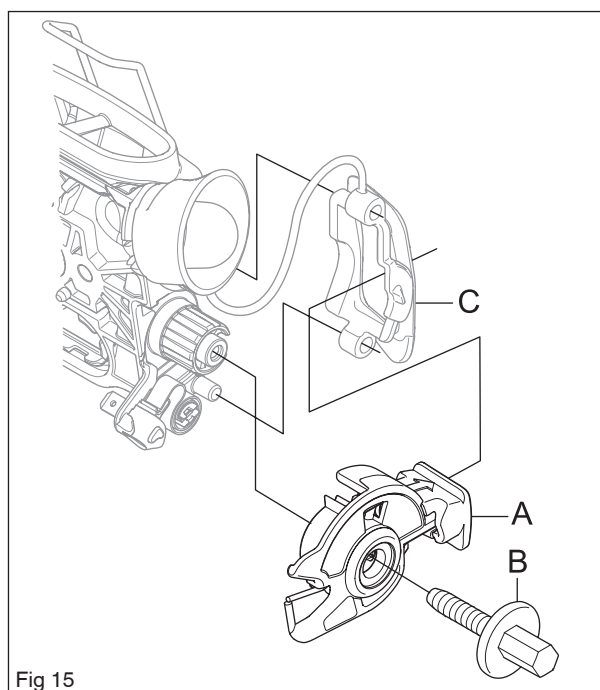

Fig 15
1. Fit the new stop control (A) and tighten screw (B) in place at a torque of 1 Nm. Slide in the stop control in the rubber sleeve C and hook the sleeve on the guide taps. See figure 15.